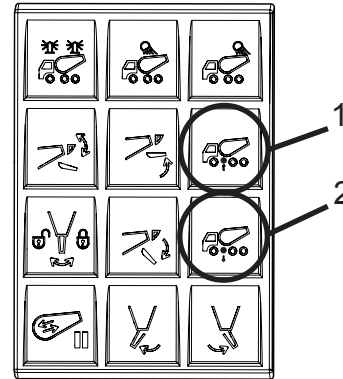

Figure 138
Auxiliary axles use UP/DOWN buttons (labeled PUSHER) to control the lower and lift function. The UP/DOWN buttons are located on the digital control display in the cab (Figure 138).
2. Press the Pusher Axle function button (UP button is Item 1, and DOWN button is Item 2) on the standard in-cab keypad (Figure 138).